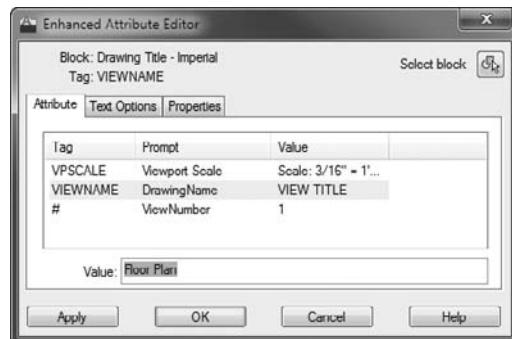

FIGURE 14.54 Changing the Drawing Title block's attributes
5. Double-click the block, and in the Enhanced Attribute Editor dialog box, change the Viewport Scale and View Number values to $3/16'' = 1'-0''$ (1:70) and 1, respectively (see Figure 14.54).
AutoCAD users note the gray background of the FLOOR PLAN text in the Value text box in the Enhanced Attribute Editor shown in Figure 14.54. The gray background indicates that the value is a field and will dynamically update based on the property selected.